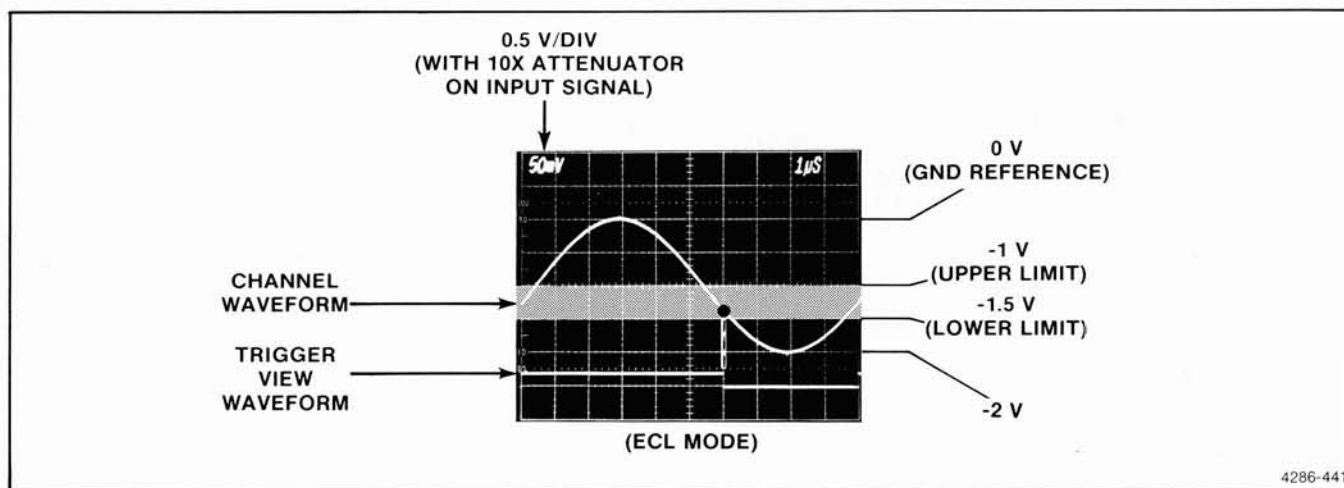

Figure 4-10. Threshold voltage range of the external clock input, in the ECL mode.
- Set the function generator Amplitude and Offset controls to display a sine-wave signal from 0 volt (GND Reference) to \sim 2 volts on the crt. Refer to Figure 4-10.
- CHECK**—that the waveform display remains triggered, and that the transition on the trigger view waveform occurs when the channel waveform voltage is within the limits of the \sim 1 V to \sim 1.5 V window. Refer to Figure 4-10.